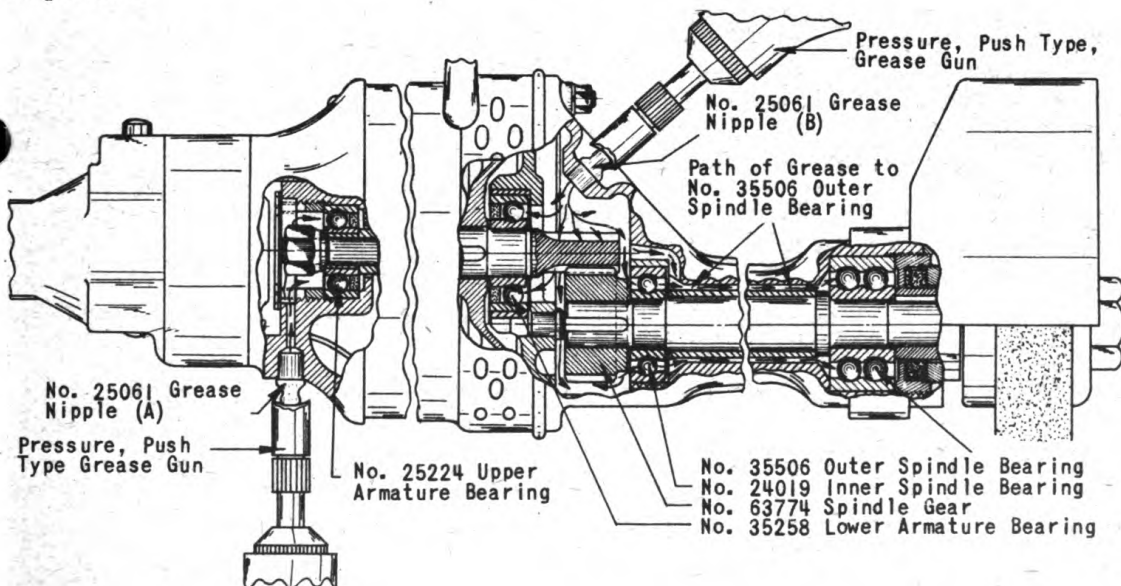

Figure 2A
Grease inserted through the upper No. 25061 Grease Nipple (A) passes to No. 25224 Upper Armature Bearing (see arrows in drawing). (Figure 2A, Page 5.)
Grease inserted through the lower No. 25061 Grease Nipple (B) passes to No. 35258 Lower Armature Bearing, Pinion on Armature Shaft, No. 63774 Spindle Gear, No. 24019 Inner Spindle Bearing, and works downward into No. 35506 Outer Spindle Bearing (see arrows in drawing). (Figure 2A, Page 5.)